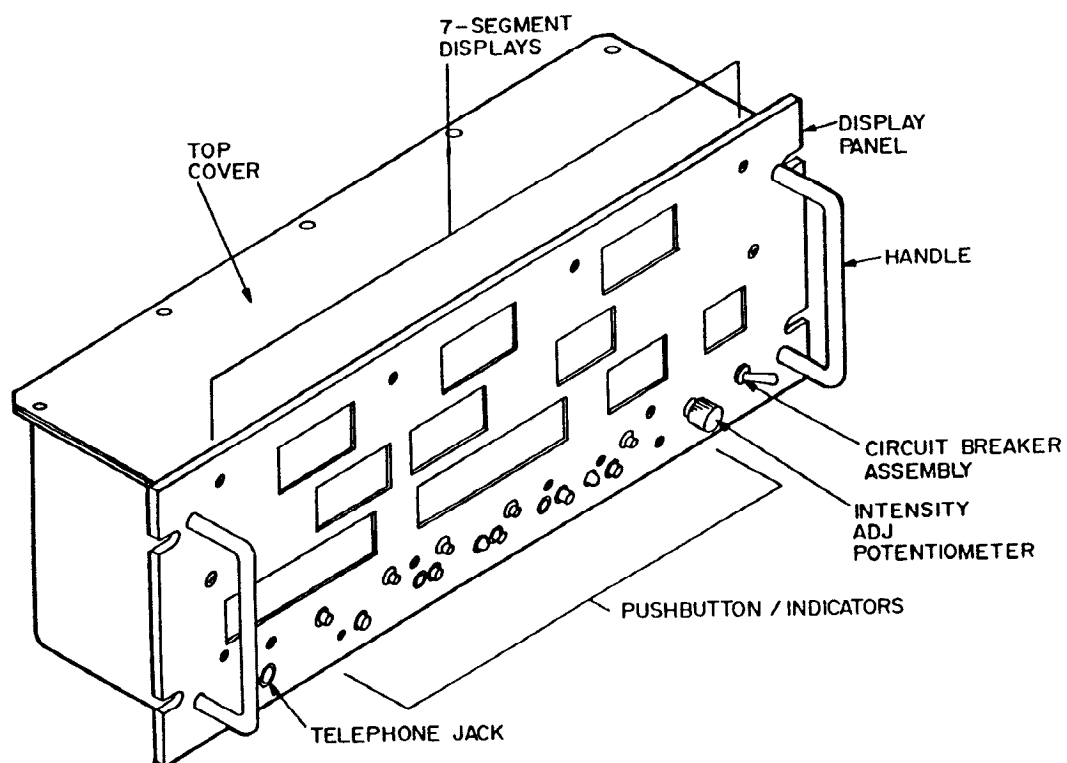

FIGURE 1-5. Digital Display Indicator ID-2408/FMQ-13(V), Front View
**1-2.2 Indicator.** (See FIGURES 1-5 and 1-6.) The wind measuring set uses two versions of the indicator (dash 1 and dash 2). The dash 1 version is a standalone indicator. The dash 2 version forms part of the recorder and is identical to the dash 1 indicator except for the addition of two connectors (AC POWER OUT and PRINTER) on the rear panel and minor changes to the display printed circuit board assembly (PCBA), interconnection PCBA, and front panel designations.